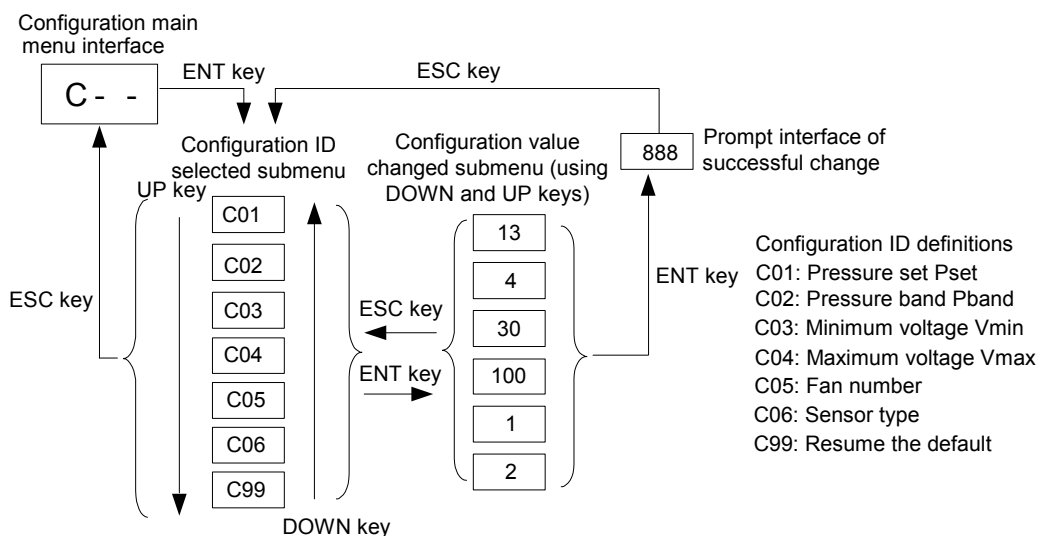

Figure 3-9 Switch figure of configuration data main menu interface
The key functions of the configuration main menu interface are listed in Table 3-10. The switching operation processes and orders are shown in Figure 3-9.
2. The configured pressure sensor type (see Figure 3-9) must be the same as the actual type.